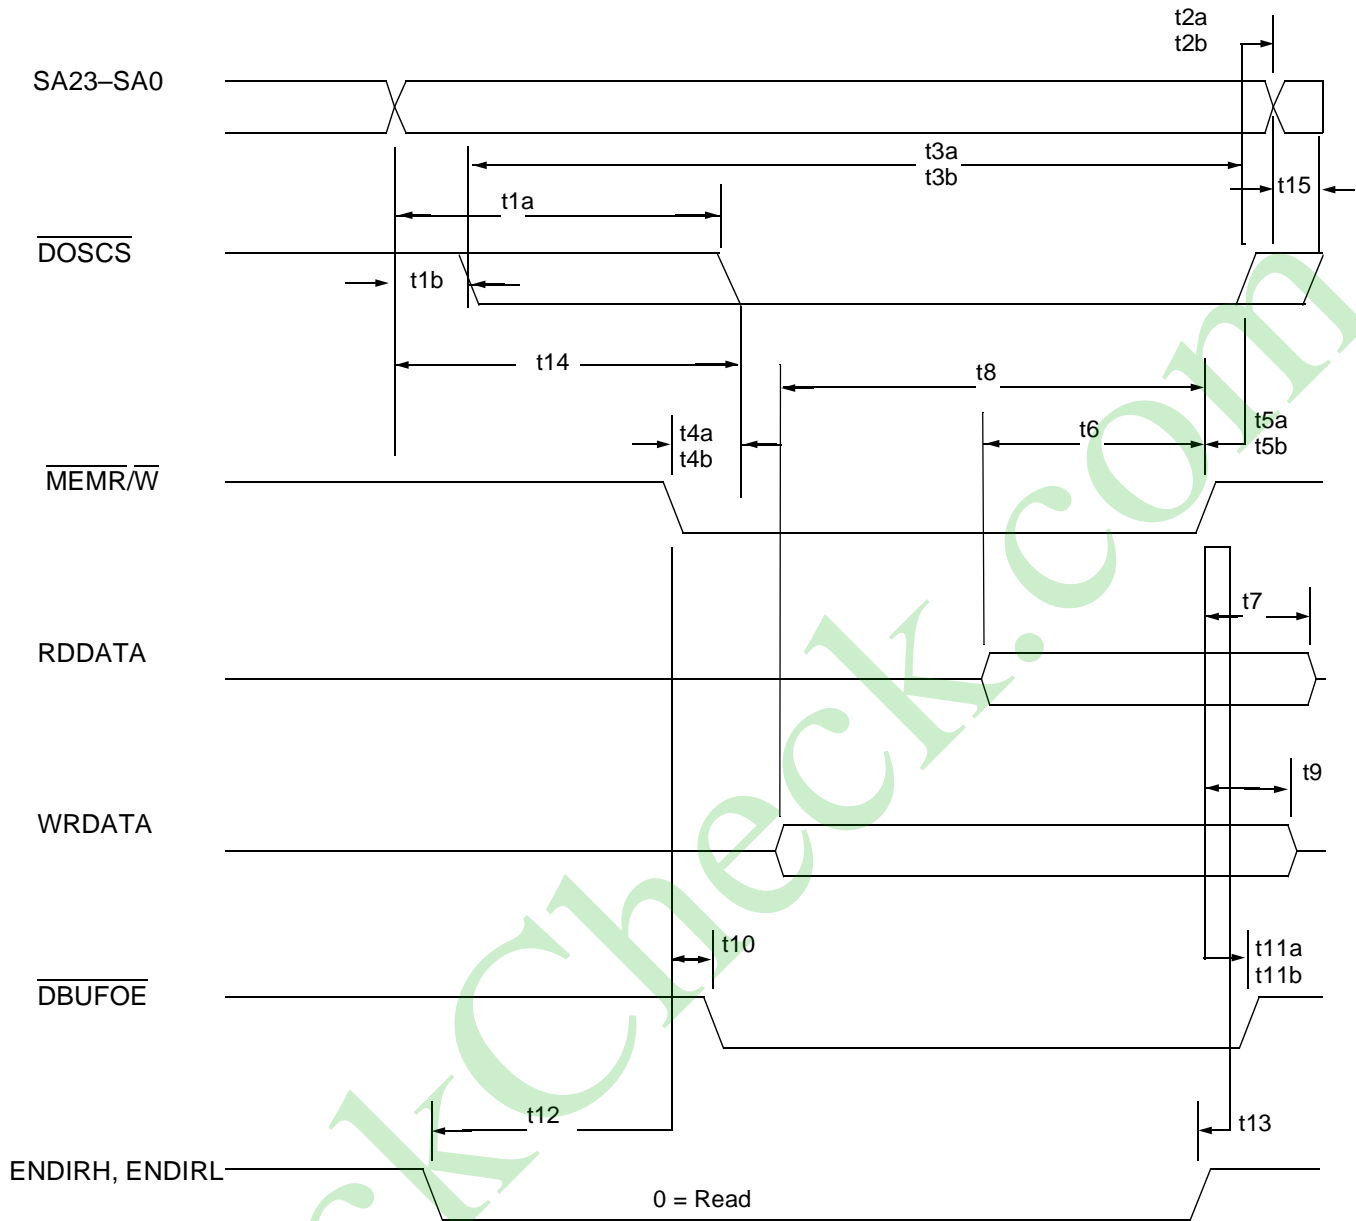

Figure 47. DOS ROM Read/Write 16-Bit Cycle
**Table 48. DOS ROM Read/Write 16-Bit Cycle (See Figure 47)**
Table 49. Fast DOS ROM Read/Write 16-Bit Cycle (See Figure 47)